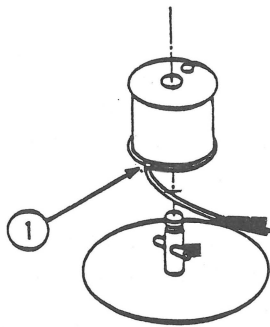

FIGURE 6
5. Insert the end of the wire into the bottom slot on the motor pulley (see Figure 6, #1).